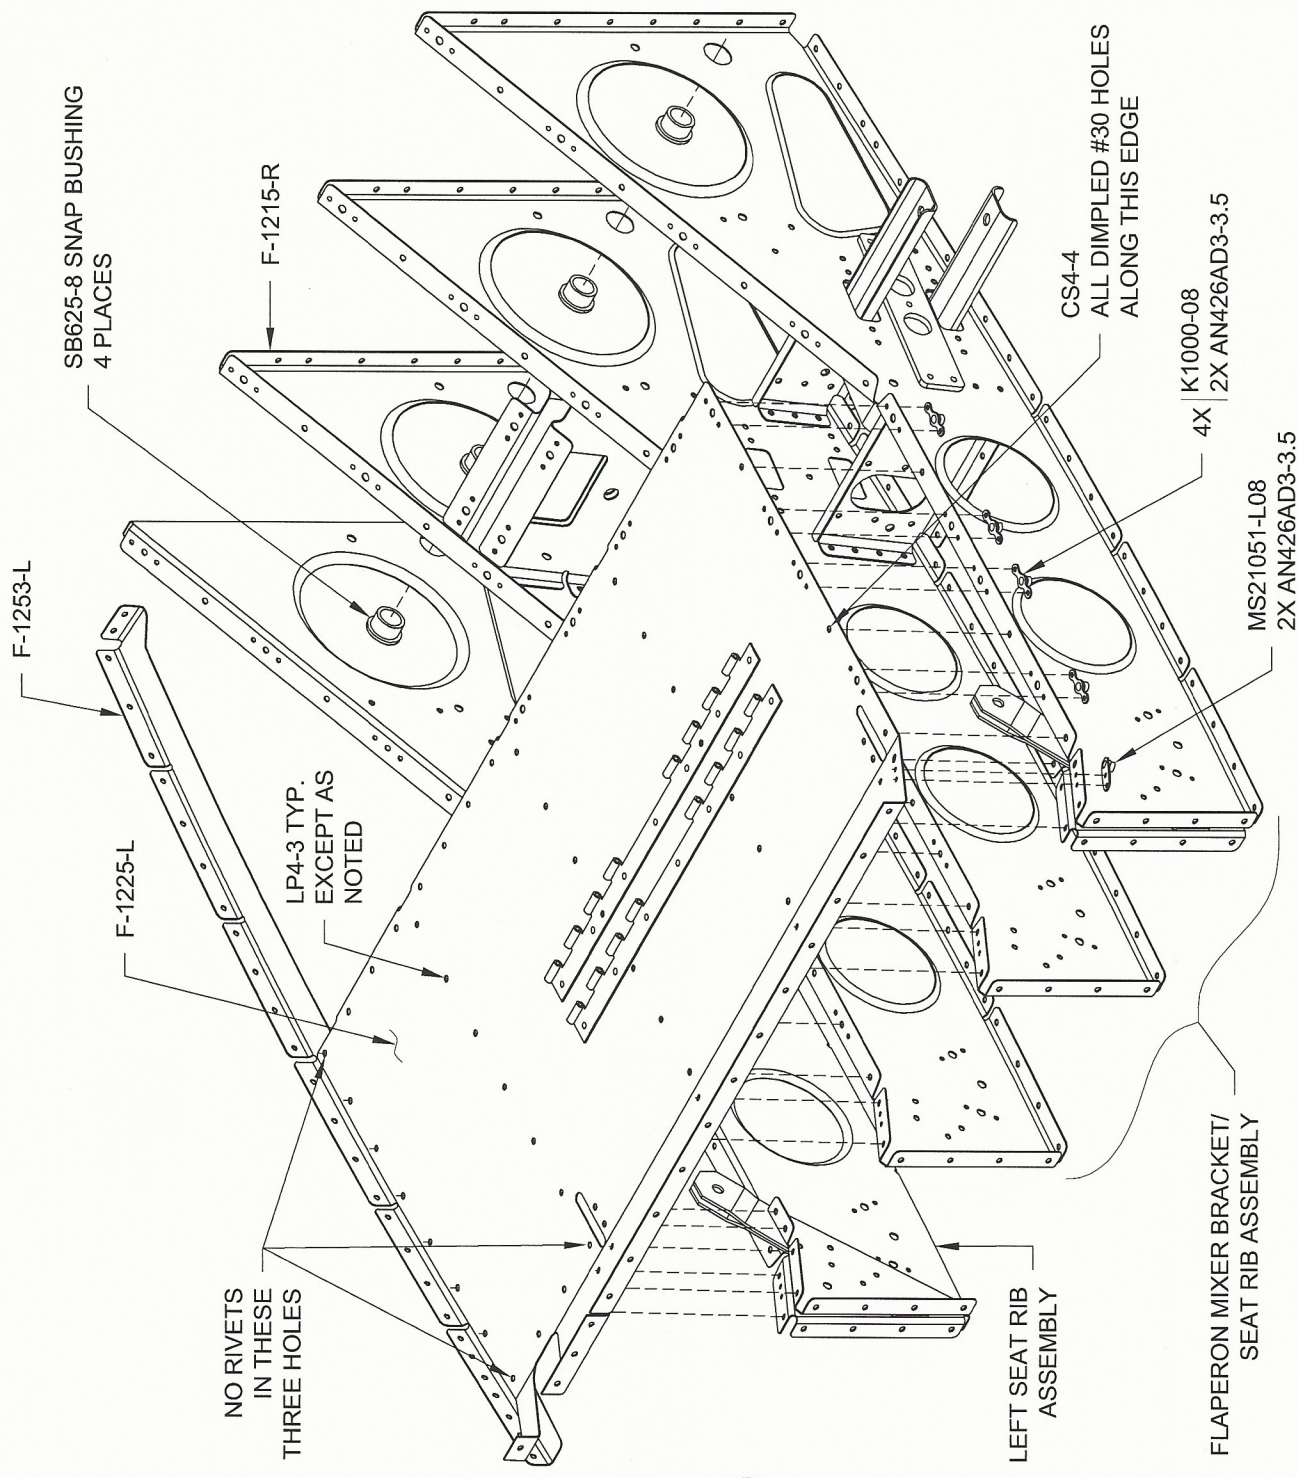

FIGURE 3: LEFT SEAT FLOOR ASSEMBLY
Step 6: Rivet the F-1225-L Seat Floor to the remaining Left Seat Rib Assembly (except for the hole indicated) and the Flaperon Mixer Bracket / Seat Rib Assembly using the rivets called out in Figure 3.
Step 7: Dimple the nutplates shown in Figure 3, then rivet them to the Flaperon Mixer Bracket / Seat Rib Assembly and to the F-1225-L Seat Floor using the rivets called out. Temporarily install an 8-32 screw in the MS21051-L08 nutplate to prevent misalignment while riveting.
Step 8: Using the rivets called out in Figure 3, rivet the F-1253-L Seat Floor Support to the bottom of the F-1225-L Seat Floor as shown. Do not install a rivet in the aft most and forward most hole as indicated.
Step 9: Install the snap bushings called out in Figure 3.